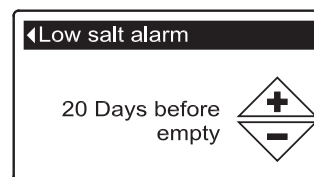

FIG. 91
5. Press the SELECT (O) button to display the Low salt alarm screen (See Figure 91).